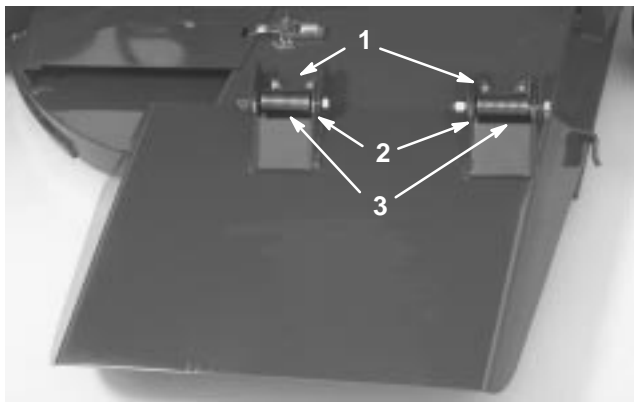

Figure 35
2. Remove the 2 capscrews, locknuts, and springs securing the deflector mounts to the pivot brackets (Fig. 35).
3. To remove the pivot brackets, remove the carriage bolts and nuts (Fig. 35).